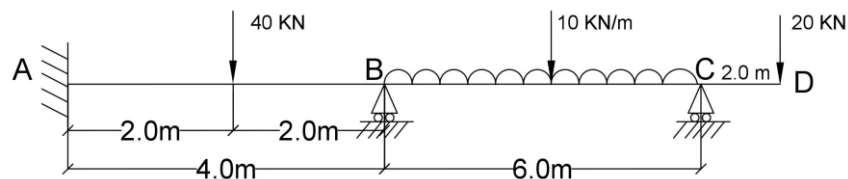

Figure 4.7
7. Analyze the continuous beam shown in figure 4.7, if the support B sinks by 10 mm. Take $EI=200 \times 10^{14} \text{ KNm}^2$. Use displacement method.